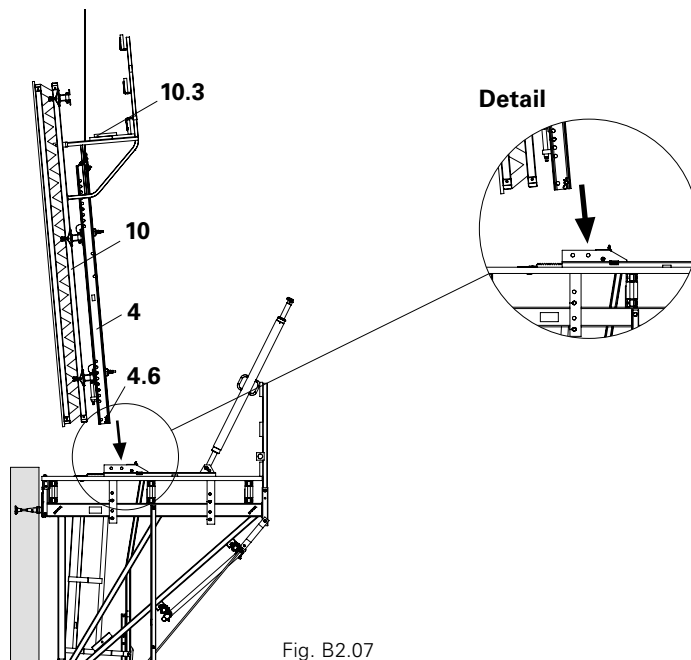

Fig. B2.07
4. Attach complete formwork element to the Strongback (4) and position on the CB 240 platform. (Fig. B2.07)
5. Mount Strongback CB (4) to Carriage using bolts  $\varnothing 25 \times 180$  and cotter pins (4.6). Holes in Carriage, see Details. (Fig. B2.07)